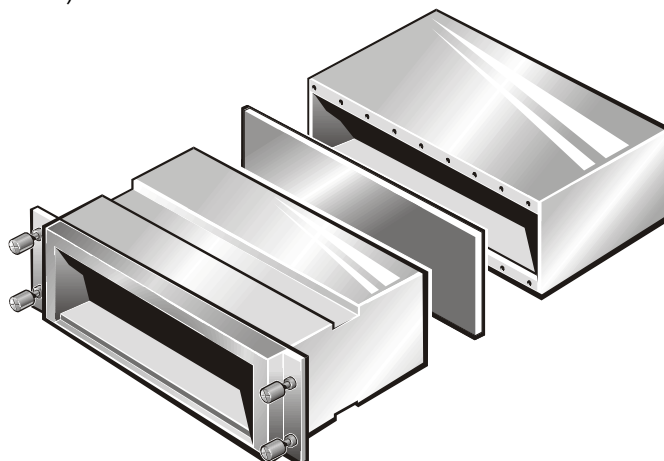

Figure 12. Chassis Separation
3. Separate the two chassis halves to remove the backplane board (see Figure 12).